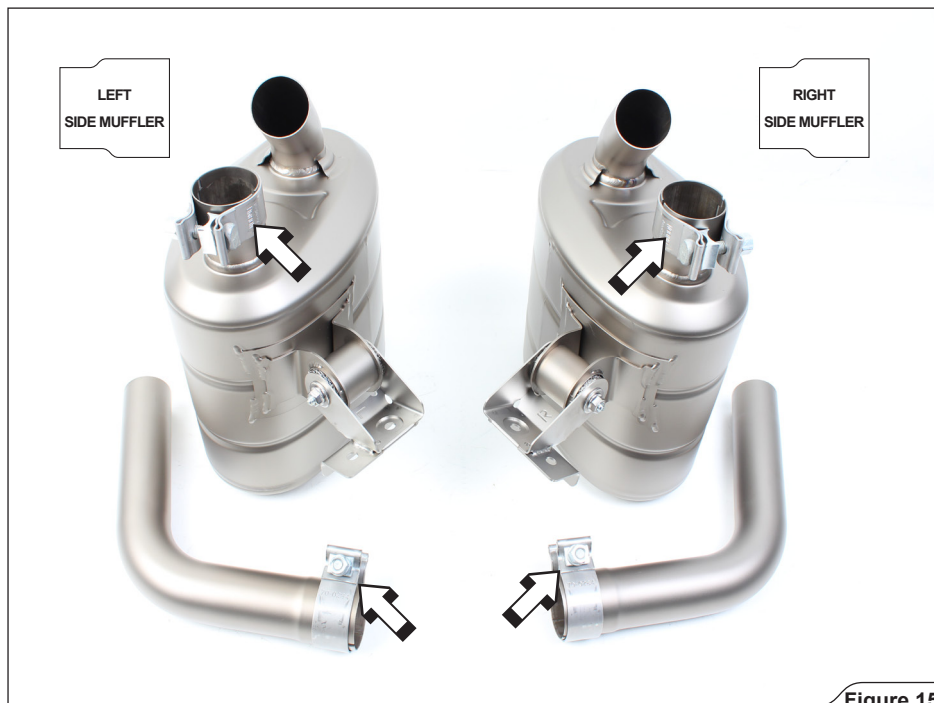

Figure 15
3. Install the clamps from Akrapovič installation kit onto the side muffler's and link-pipe's inlets as shown (Figure 15).